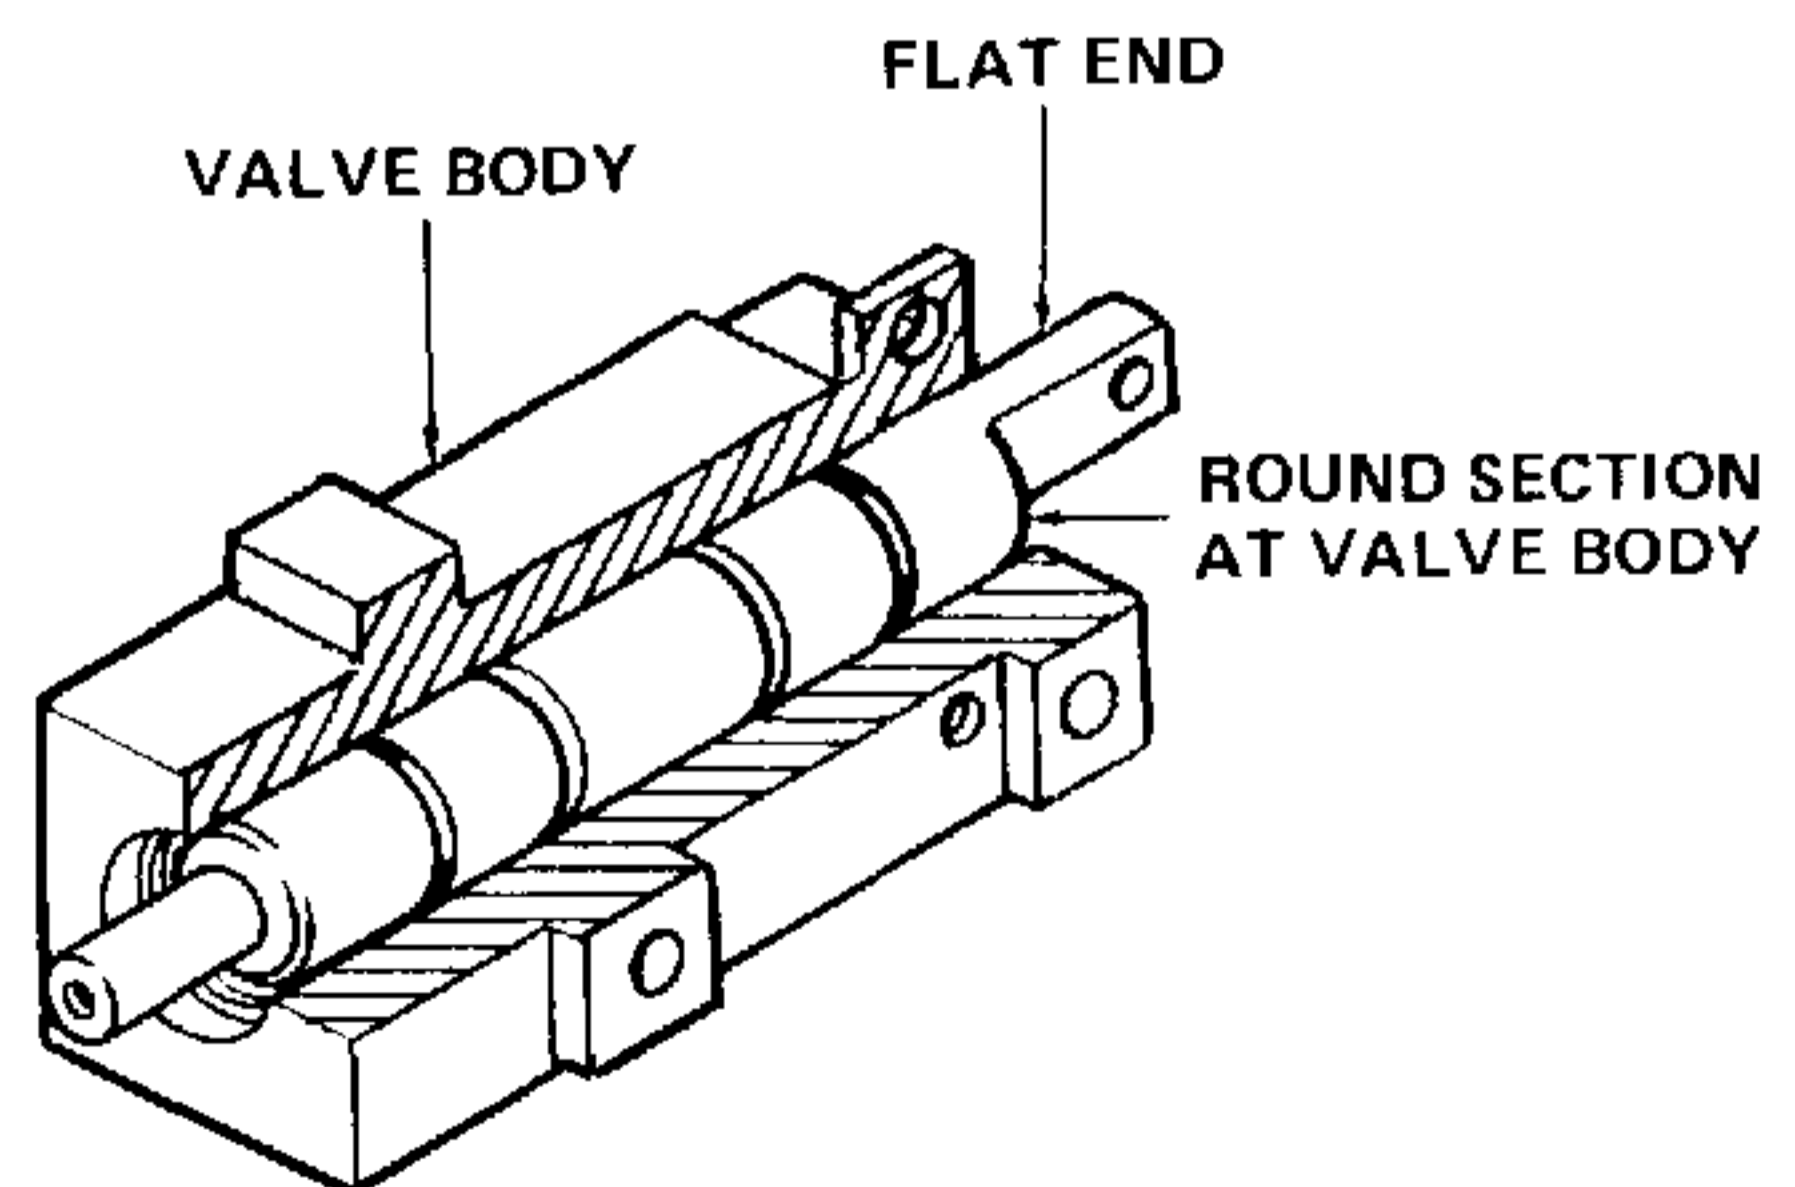

Figure 5-55. Valve Shaft Correctly Positioned In Valve Body.
- e. Push valve shaft back into valve body until round section near flat end of shaft is just inside valve body. Refer to Figure 5-55.